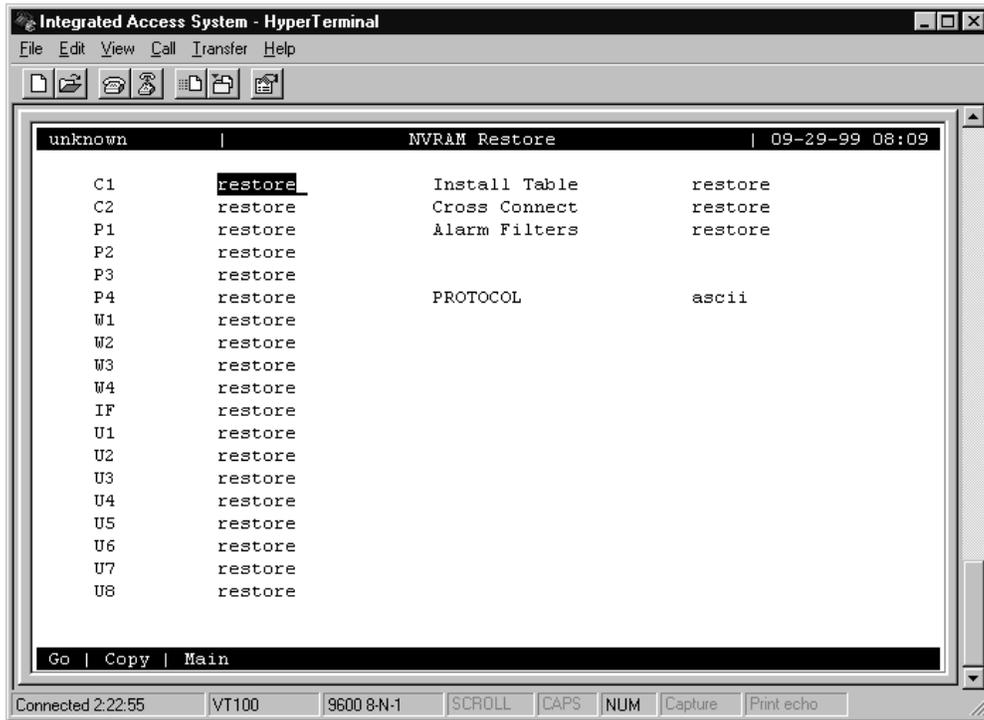

Figure 4-18. Restore Screen
2. Type **E** (for r**E**store). In the screen shown in Figure 4-18, the default for all slots and categories is **restore**. To do a full restore, proceed to Step 3.